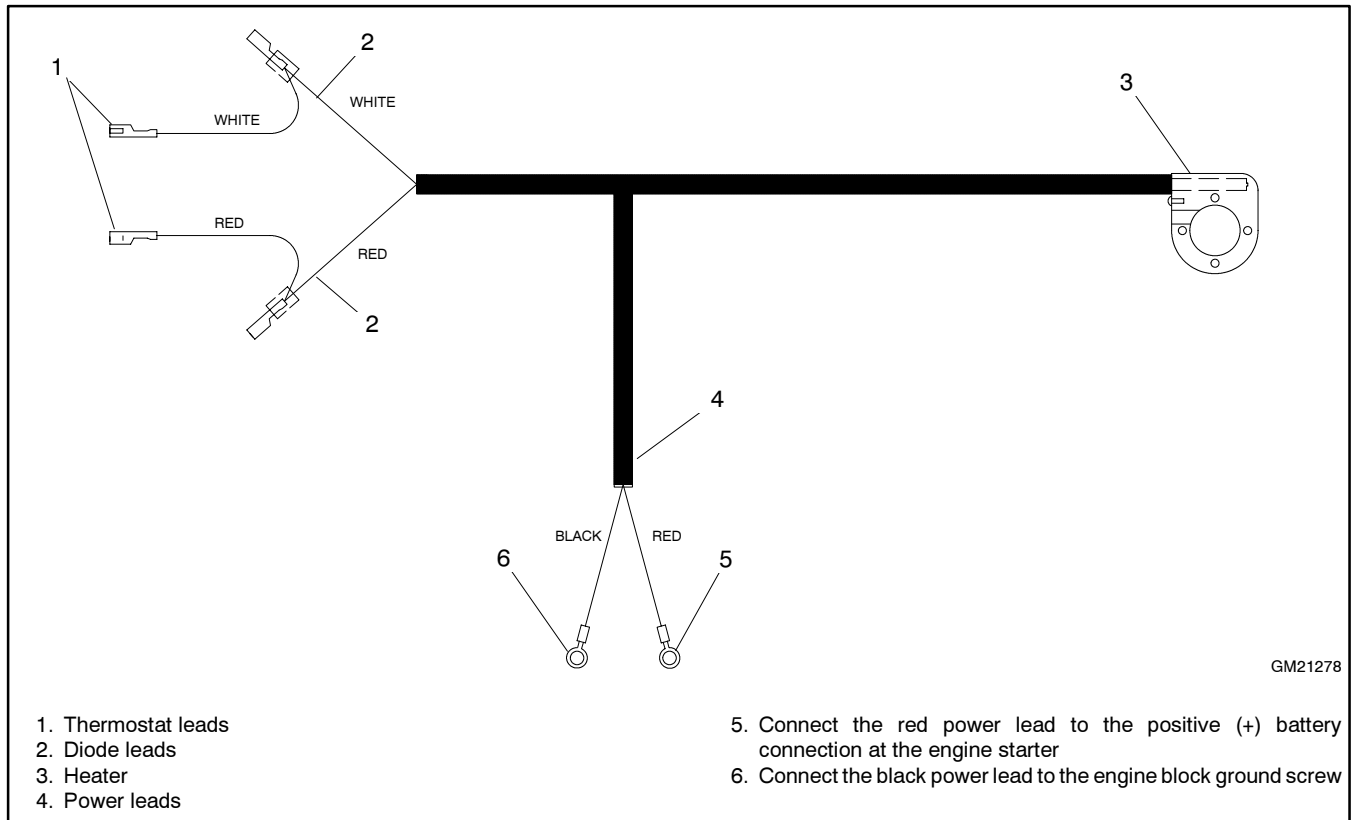

Figure 19 Heater with Wiring Harness
1. See Figure 19 to identify the wiring harness leads for the thermostat, heater, and power connections.
Note: See Figure 19 to identify the heater power leads. The power leads have ring terminals on the ends.